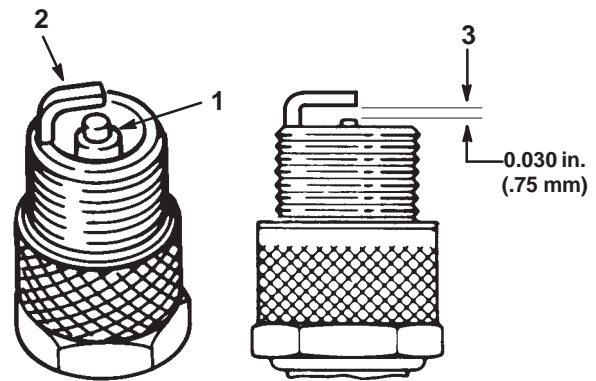

Figure 28
2. Look at the center of the spark plug(s) (Fig. 28). If you see light brown or gray on the insulator, the engine is operating properly. A black coating on the insulator usually means the air cleaner is dirty.
3. Check the gap between the center and side electrodes (Fig. 28). Bend the side electrode (Fig. 28) if the gap is not correct.